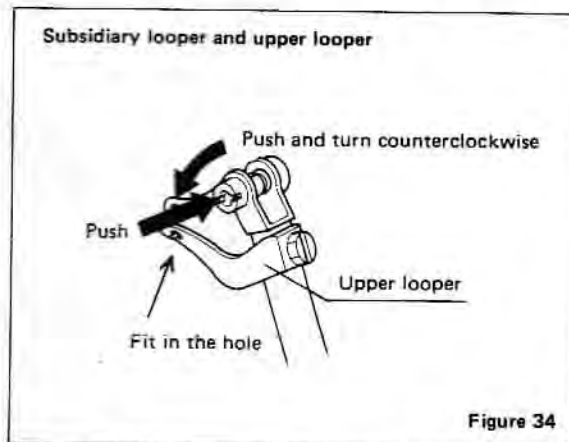

Figure 34
4. Push on the subsidiary looper screw (brass) with your finger or screw-driver as you turn it to the left until the tip of the subsidiary looper fits into the eye of the looper (Figure 34).